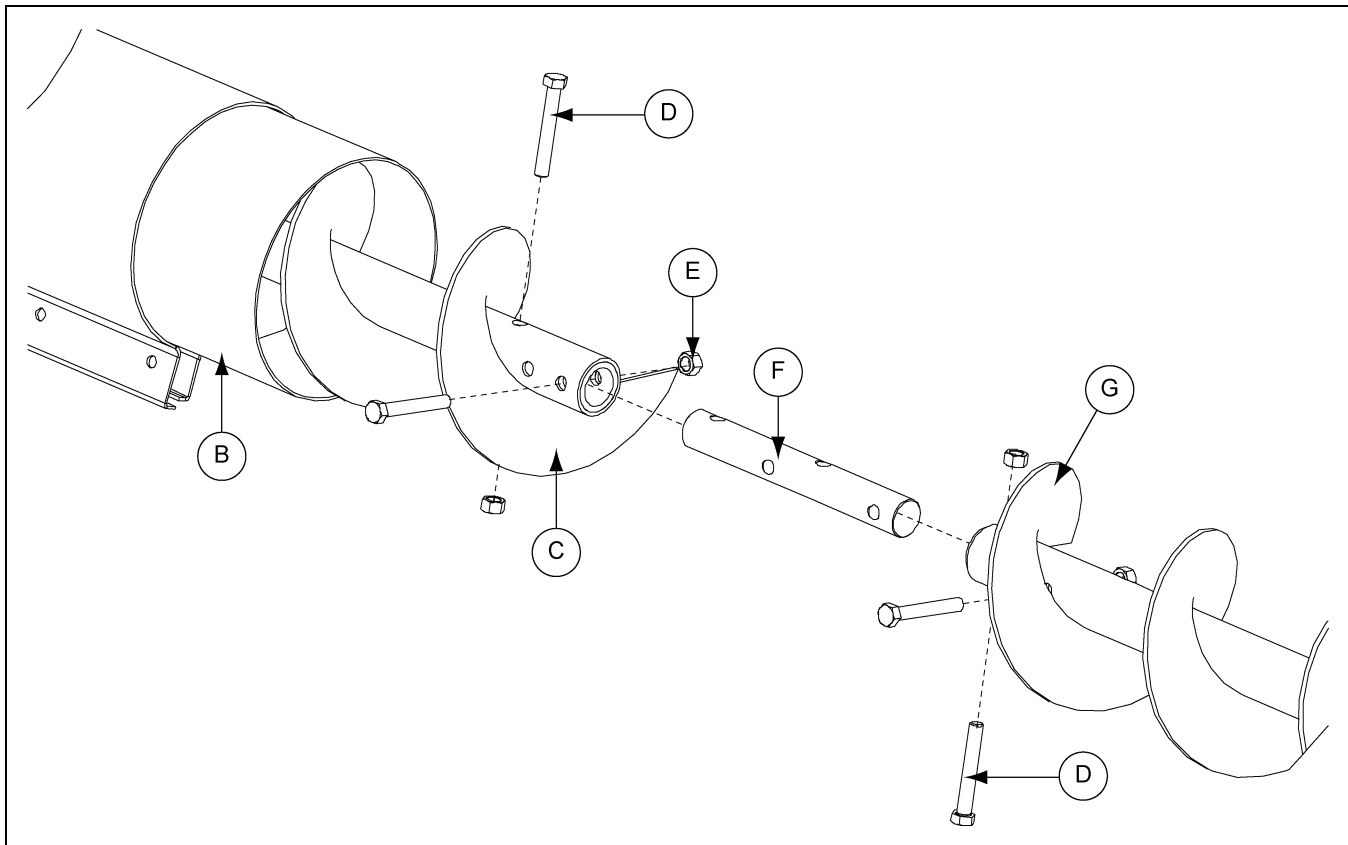

Figure 4B
2. Slide the flight connecting shaft (F) into the main section of flight (C) and bolt (D) together with grade 8 hex bolt (D) and stover nut (E). Next slide extension flight (G) onto connecting shaft (F) and bolt (D) together using proper grade 8 bolts (D) and stover nuts (E). (*See Chart* and *See Figure 4B.*)